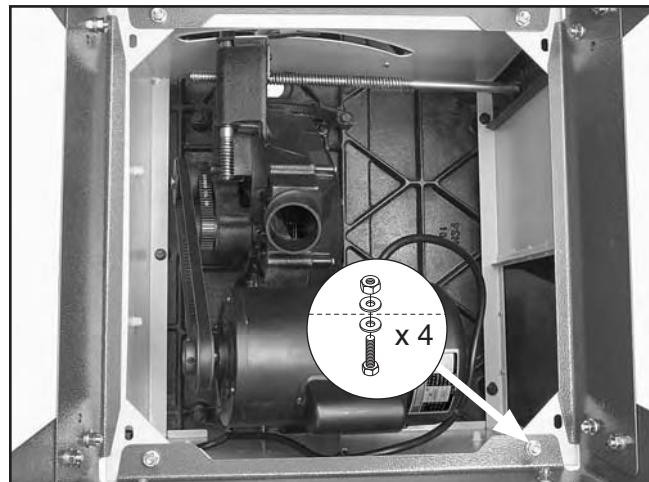

Figure 16. Stand secured to saw body.
- Secure the stand to the table saw body with (4) M8-1.25 x 20 hex bolts, (8) 8mm flat washers, and (4) M8-1.25 hex nuts, as shown in **Figure 16**.